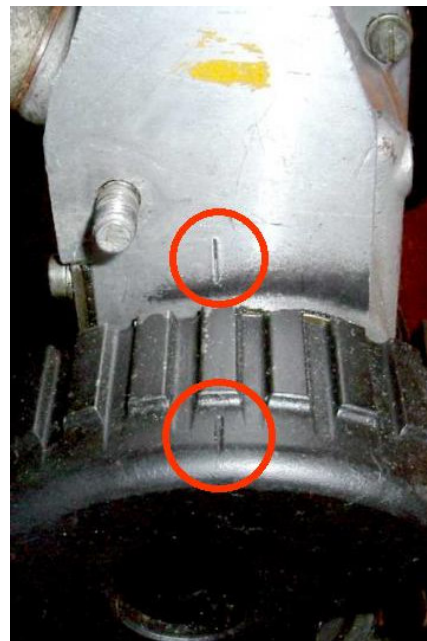

Fig 21. Injection Pump Timing Marks
2. Time injection pump to engine. First, set the engine to "P" (TDC) at the beginning of the #4 (NUMBER FOUR) cylinder power stroke, then rotate the engine CCW (as you' re looking towards the rear of the car from the front) to the "I" mark (70 deg BTDC). Next line up the index marks on the front of the injection pump body and pulley as shown in Fig. 21. Install the new belt on the crankshaft pulley first. The belt will slip through the small slit between the crankshaft and the front cover. Then, without changing the position of the crankshaft or injection pump pulley, slip the new timing belt onto the injection pump pulley. Do not use levers or sharp objects. Using some WD-40 is ok.